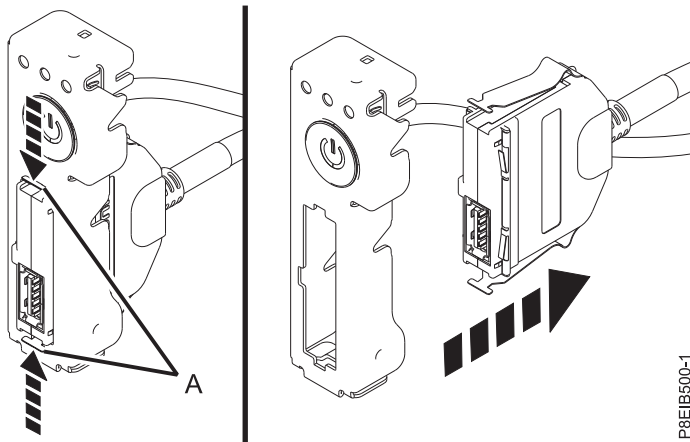

Figure 23. Removing front USB cable and connector from power switch
10. Pressing the latch releases (A) on the connector, disconnect the front USB cable and connector from the power switch. See Figure 23 on page 28.